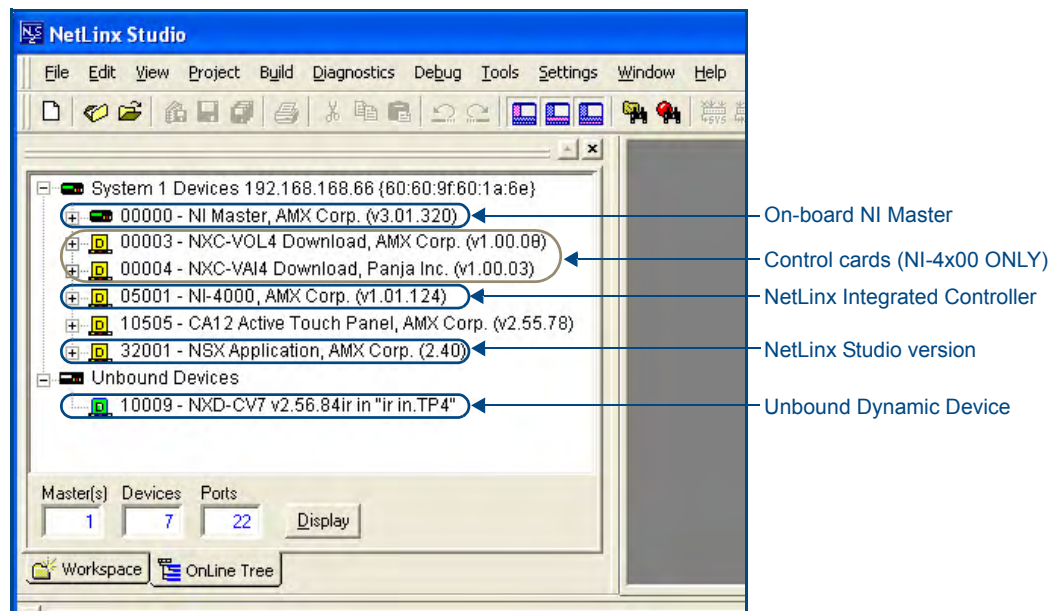

FIG. 5 Sample NetLinX Workspace window (showing OnLine Tree tab)
1. After Studio has established a connection with the target Master, click on the **OnLine Tree** tab in the Workspace window to view the devices on the System. *The default System value is one (1).*
3. After the Communication Verification dialog indicates active communication between the PC and the Master, verify the NetLinX Master (**00000 NI Master**) appears within the **OnLine Tree** tab of the Workspace window (FIG. 5).